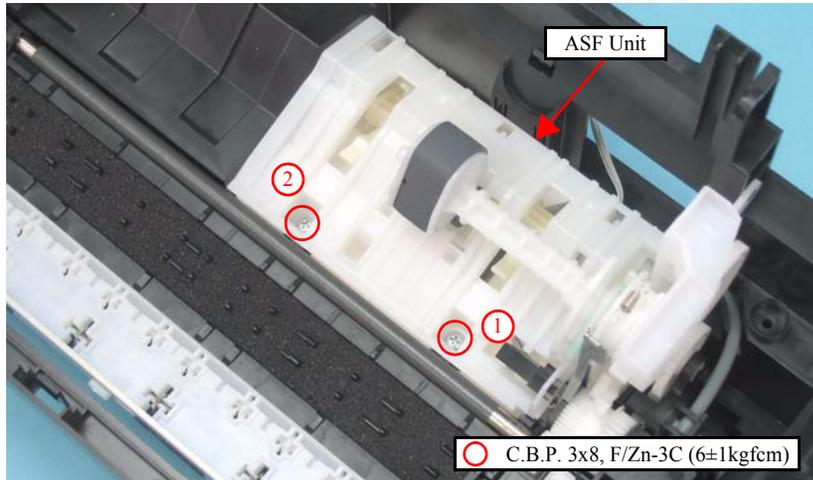

Figure 4-70. Removing ASF Unit (1)
- When installing the ASF Unit, be sure to align the guide pins (x2) of the Base Frame with the positioning holes (x2) of the ASF Unit shown in the Figure 4-70.